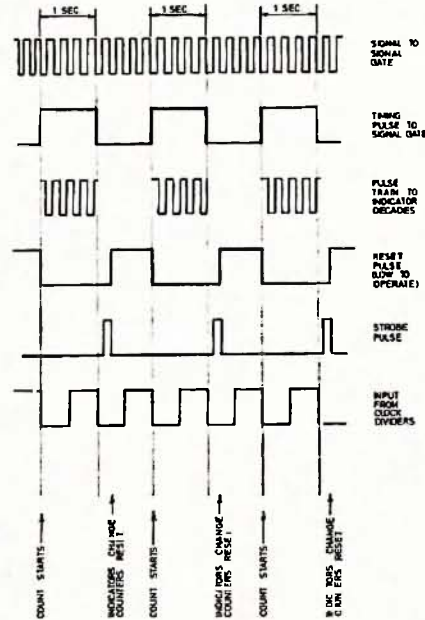

FIG. 7 WAVEFORMS
Fig. 7 gives the waveforms encountered in the control section and their time relationship.
- At the command of the strobe pulse (see Fig. 7) to pass on to the seven segment incandescent indicator the count stored.
(c) On receipt of a "clear" pulse from the control section (see Fig. 7) to re-set to zero and be ready for the next input pulse train.